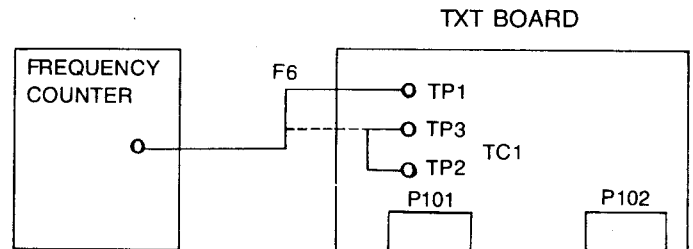

Figure 7. Connection Diagram of the Instruments
- a) Connect with the Instrument shown as in figure 7. (TP2, TP3 are GND).